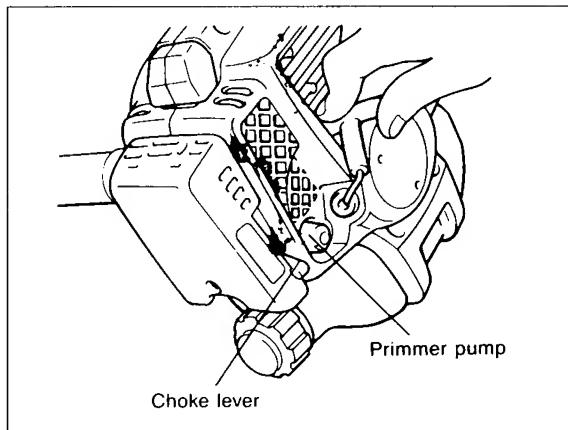

Fig. 18
- 2) Give a gentle push on the primer pump repeatedly (7 — 10 times) until fuel comes into the primer pump. (Fig. 18)
- 3) Close the choke lever fully by moving it to the  position. (Fig. 18)
- 3) Open the choke lever fully by moving it to the | ♦ | position. (Fig. 18)